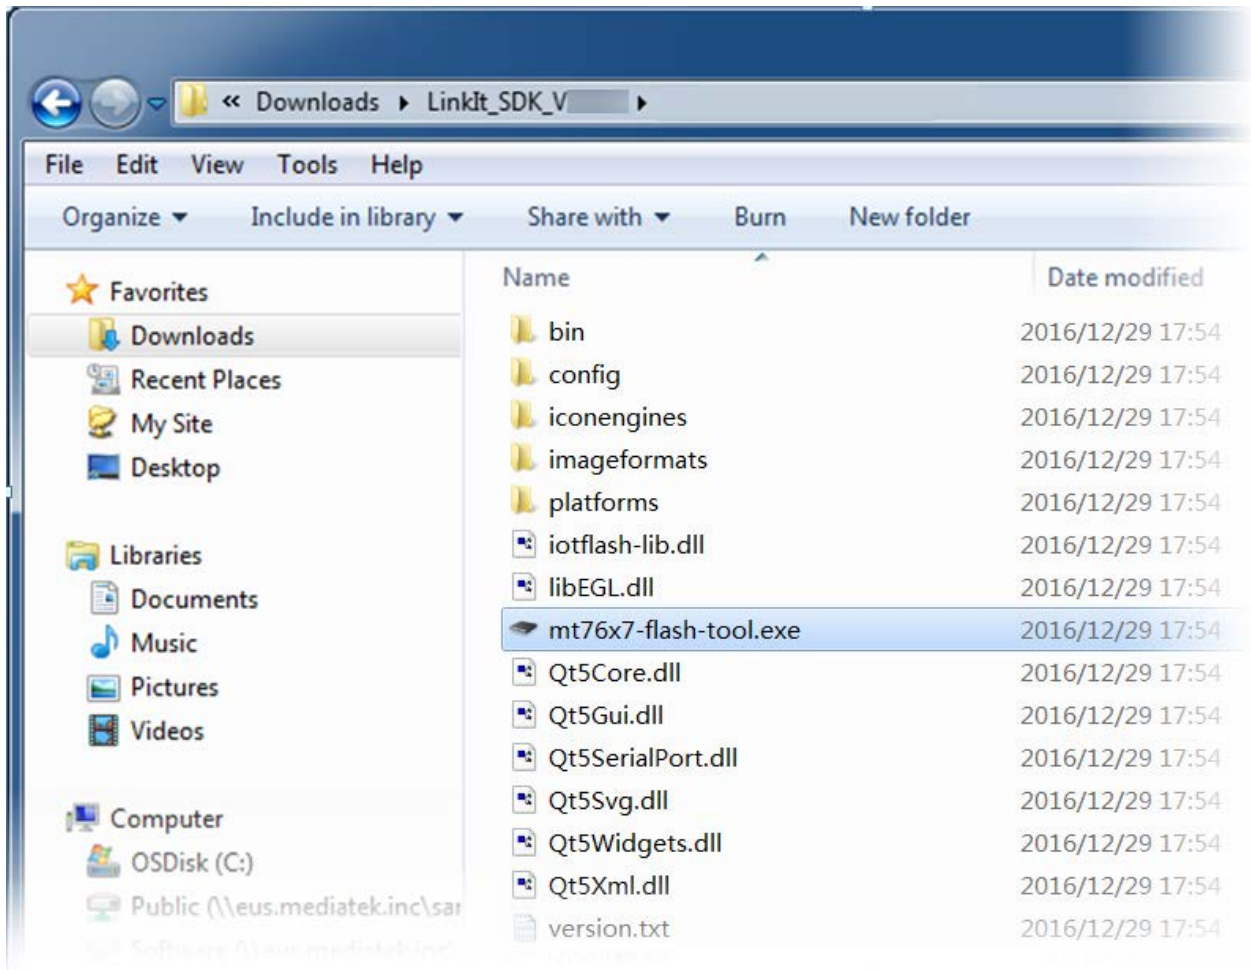

Figure 2. Executable file in the MT76x7 Flash Tool's destination folder
- 2) Execute the `mt76x7-flash-tool.exe` to launch the Flash Tool (see Figure 2).